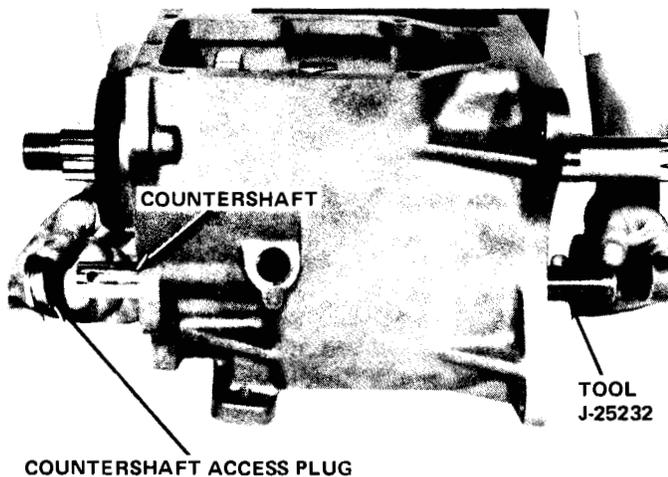

Fig. 6-5 Removing-Installing Countershaft
(4) Remove fill plug and drive out countershaft using Arbor Tool J-25232 (fig. 6-5). Do not lose countershaft access plug when removing countershaft. With countershaft removed, allow countershaft gear to lie at bottom of case.
(5) Punch alignment marks in front bearing cap and transmission case for assembly reference.